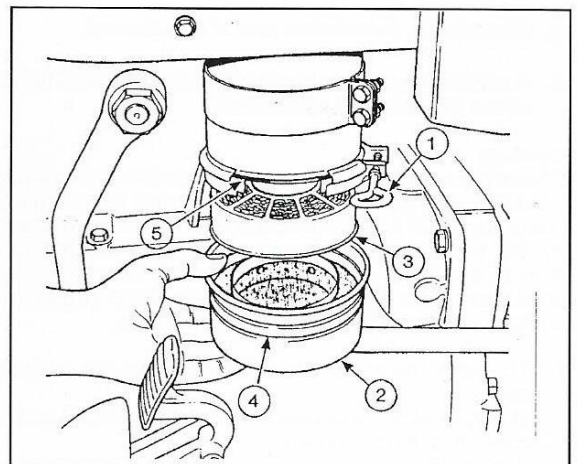

Fig. 83
1. Unscrew the clamp fastener (1, Fig. 83).
2. Remove the bowl (2).
3. Remove the filter element (3).
6. Refill the bowl with clean engine oil to the level indicated (4) BUT NO HIGHER.
8. Refit the oil bath to the air cleaner, ensuring that the seal (5) around the body of the cleaner is in good condition and correctly seated. Ensure that the clamp is properly engaged and secure.